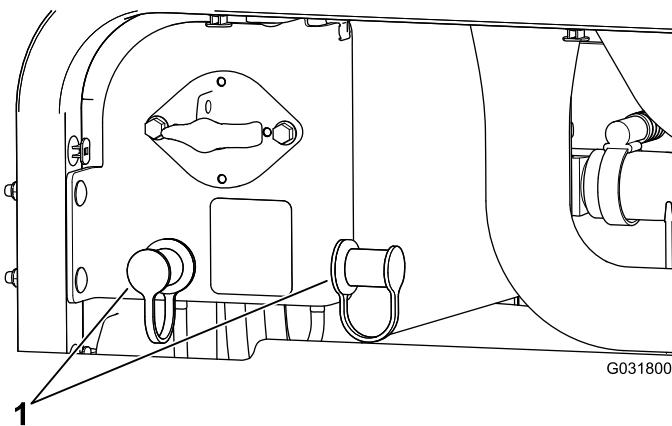

Figure 97
3. Remove the covers from the jump posts (Figure 97).